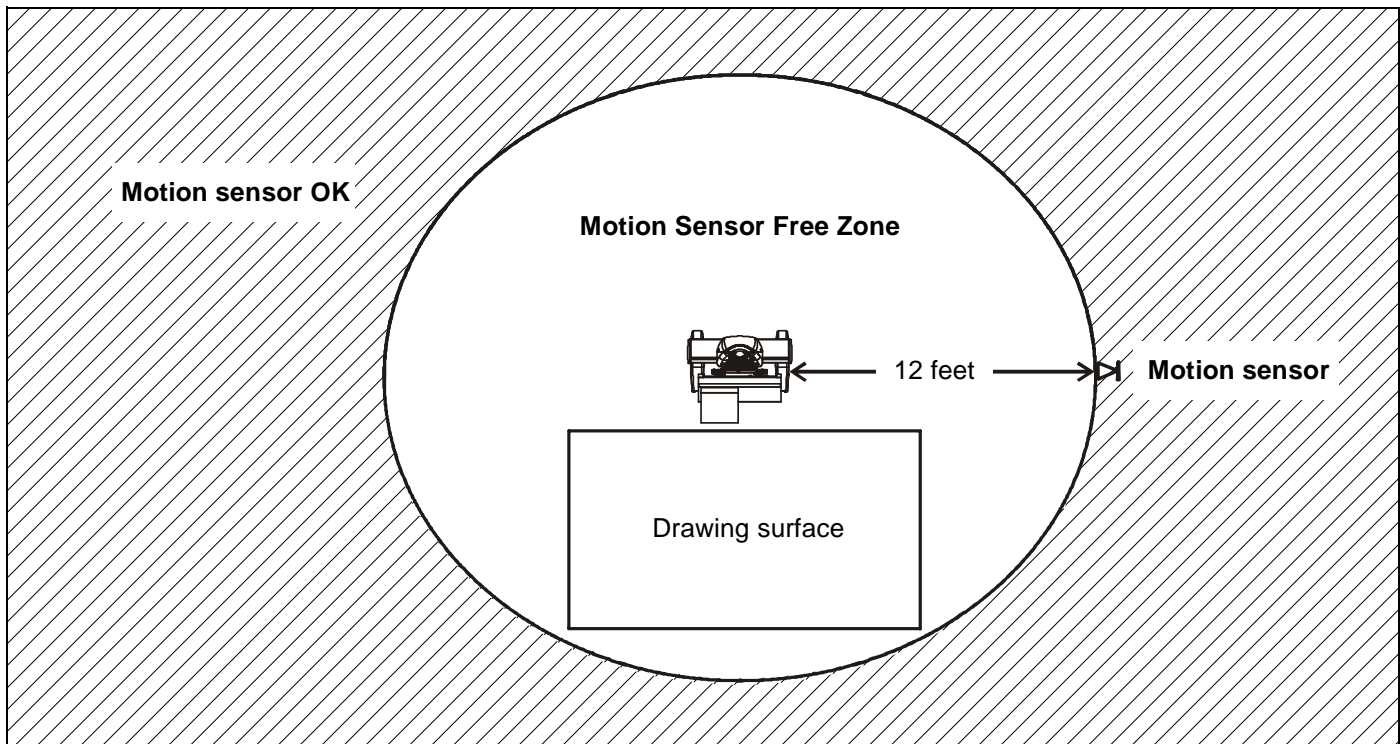

Figure 2
**General proximity guideline:** A distance of 12 feet (approximately 4 meters) between the motion sensor and the eBeam receiver will normally allow good performance with the maximum board size. (See Figure 2)